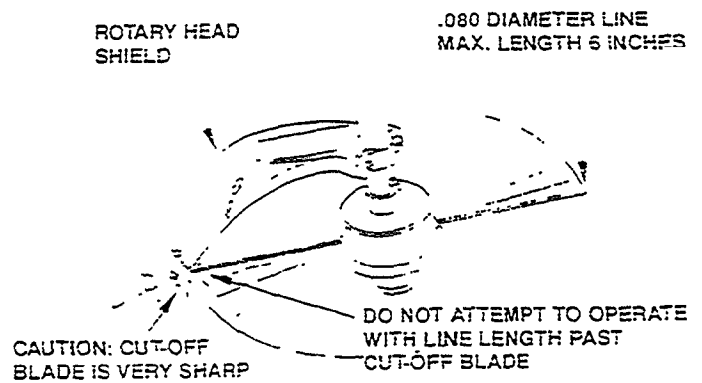

Figure 12
- Do not attempt to trim with line length past the cut-off blade (Fig. 12).